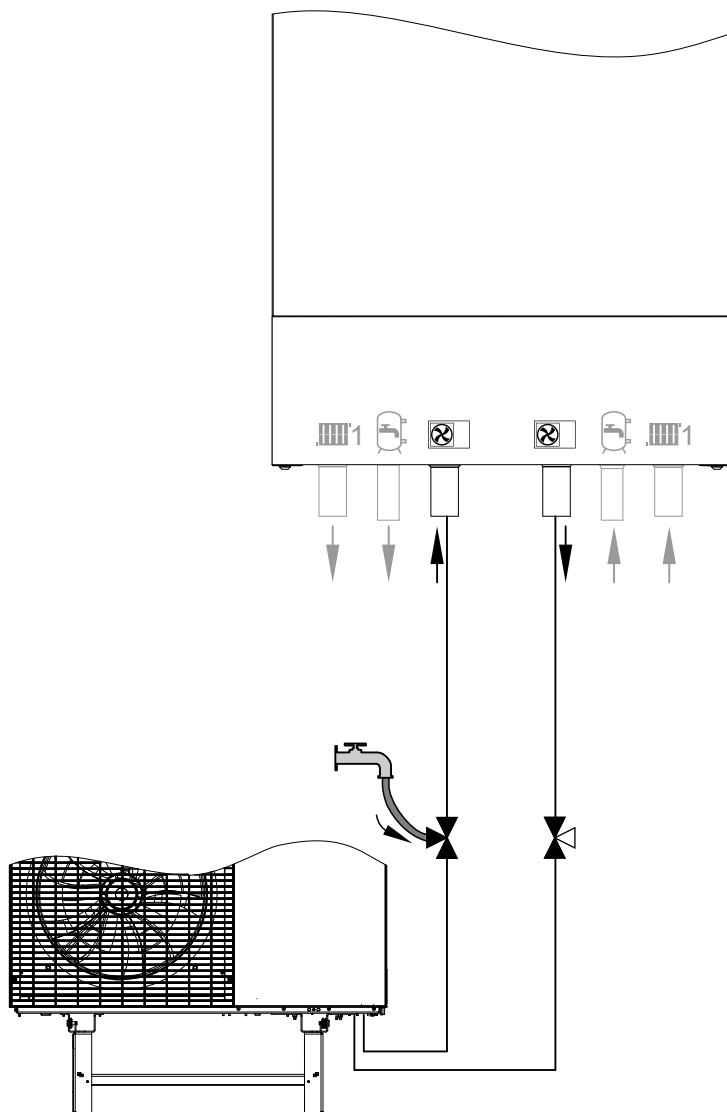

Fig. 66
2. Open the 3-way ball valve of the outdoor unit flow (indoor unit heating water inlet) as shown in Fig. 66: **Open in all directions**
3. Open the 3-way ball valve to the outdoor unit return (indoor unit heating water outlet): See Fig. 66.